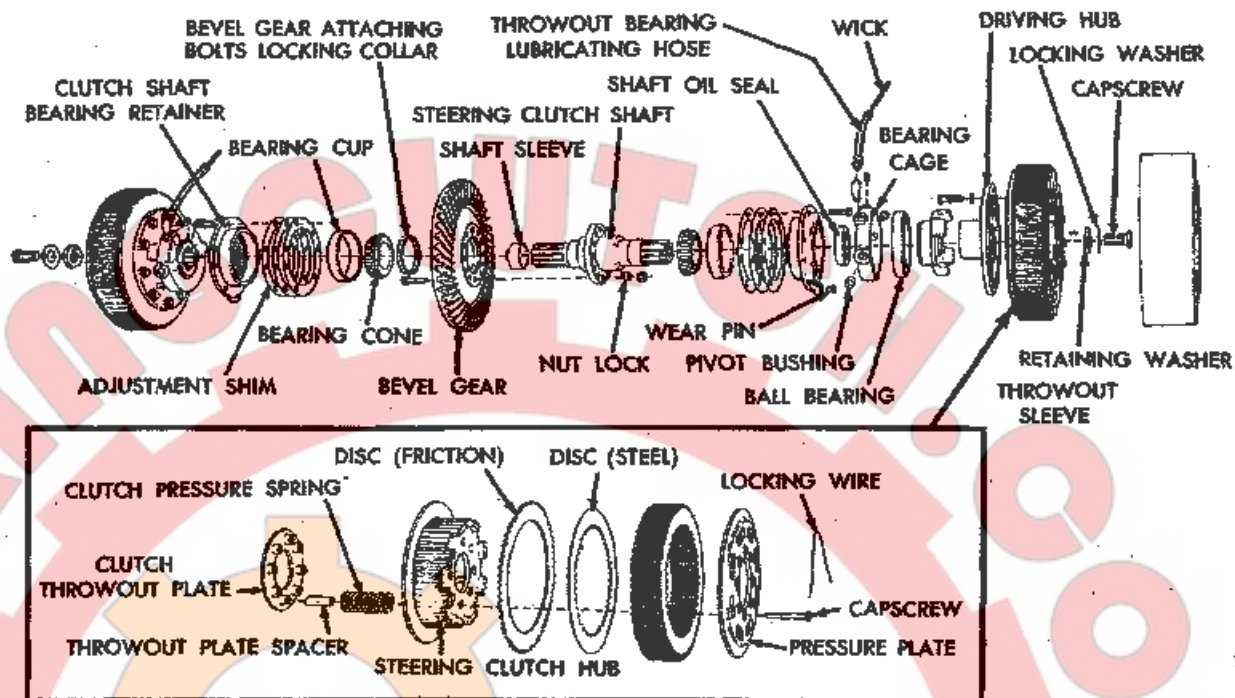

Fig. 7 — Bevel Gear and Steering Clutches
- Before disassembling the steering clutch, refer to Fig. 7 and center punch or mark the pressure plate, clutch hub, and throw-out plate so that they may be reassembled in the same position.